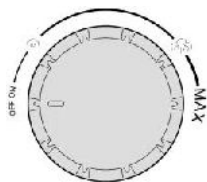

Fig. 6
4. Check that the steam adjustment knob is in the 'Off' position (fig. 6).